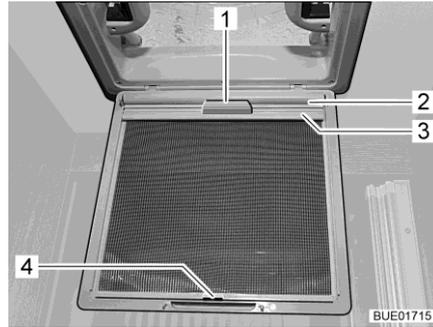

Fig. 32 Blind (skylight)
- Using the handle (Fig. 32,1), pull out the blind (Fig. 32,2) and hook the retainer (Fig. 32,3) into the hook (Fig. 32,4) on the insect screen.
- Release the retainer (Fig. 32,3) from the hook (Fig. 32,4) and, using the handle (Fig. 32,1), slowly return the blind (Fig. 32,2).